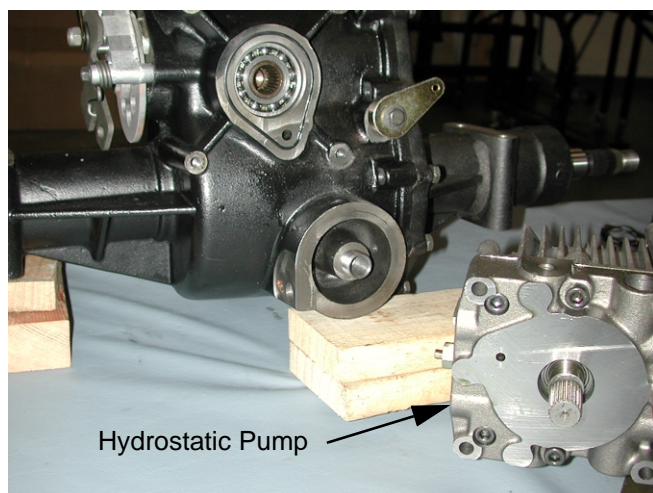

Figure 11
15. Remove the hydrostatic pump from the transmission housing. See Figure 11.